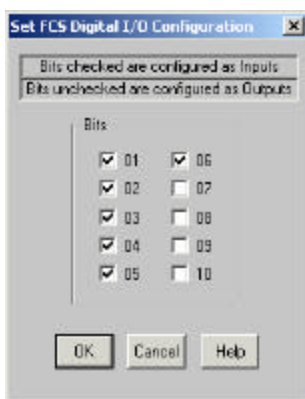

Figure 7-12: Set FCS Digital I/O Configuration Dialog Box
2. At the Set FCS Digital I/O Configuration dialog box that opens (**Figure 7-12**), put a check mark in the box for each digit bit to be used as an input channel.